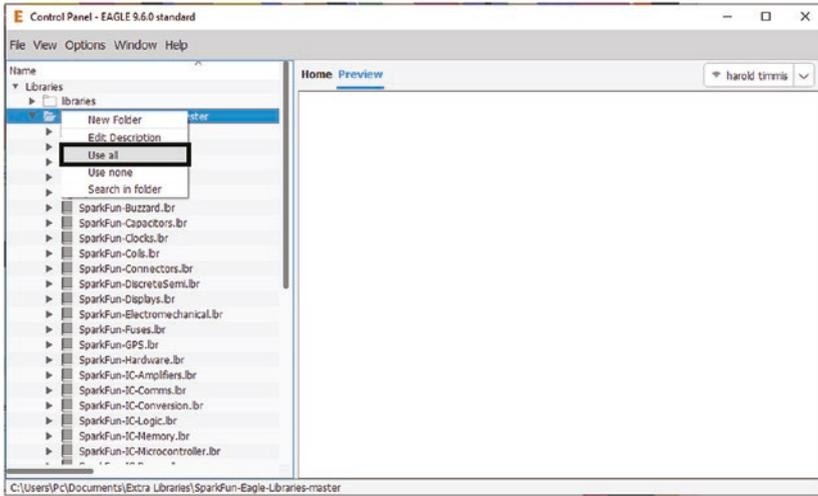

Figure 5-15. Select “Use all”
2. Go to the Libraries drop-down and right-click the SparkFun library we added in the previous section and click “Use all.” See Figure 5-15.